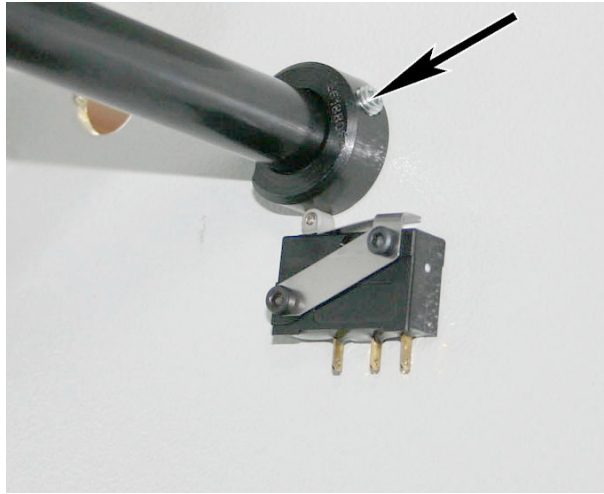

Fig. 4
7. Loosen the headless screw (inside machine framework, right side, Fig. 4).